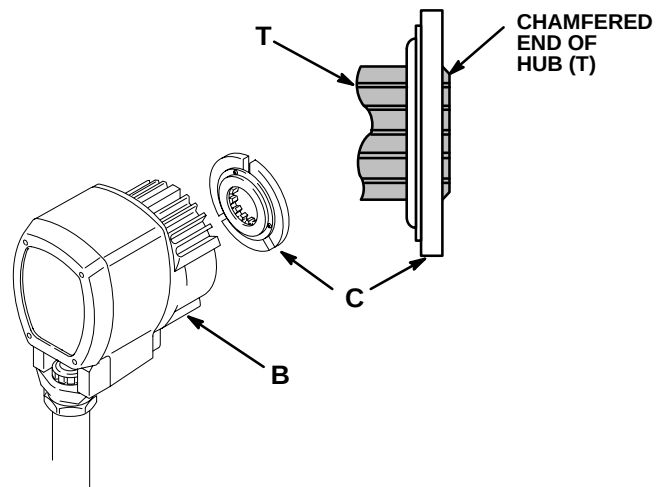

Fig 2
3. Clean the face of the armature (C). With the flat side of the armature facing the rotor (E), slide the armature onto the hub (T) in the drive/pinion assembly (B) just until the chamfered end of the hub protrudes through the armature. See Fig 2. There will be significant resistance. Attach the cardboard spacer, supplied with the clutch kit, to the face of the armature. Engage the tabs on the spacer with the slots in the armature.